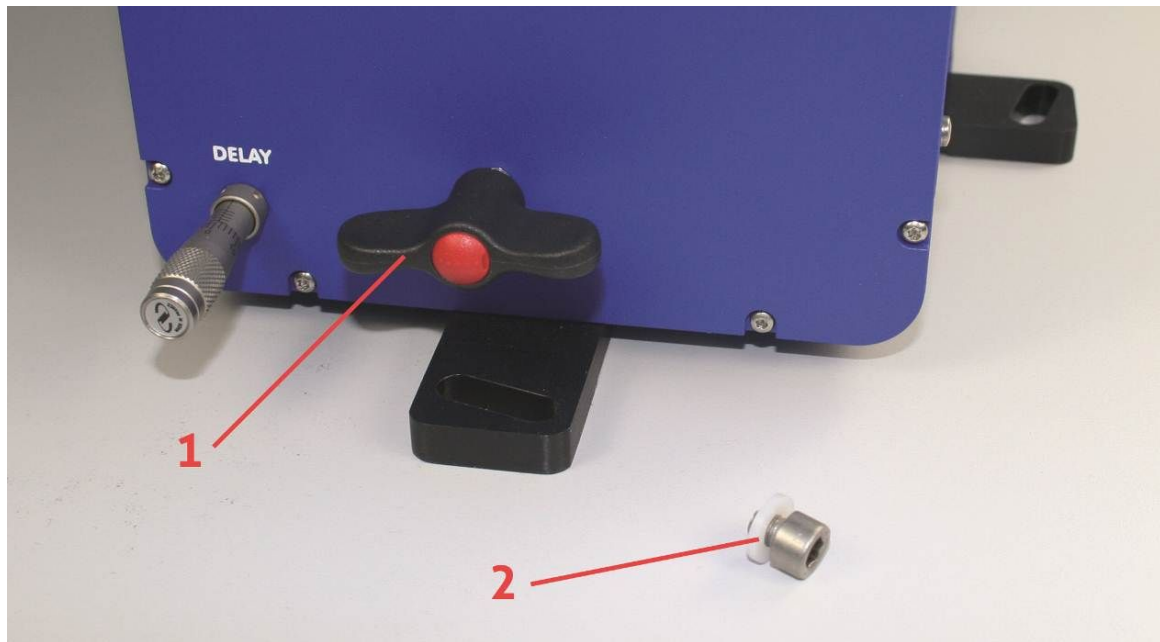

Figure 3.5.: Transportation screw (1) installed (for transportation), not included with *pulseCheck* USB 150!
The optical head is secured by a transportation screw. After unpacking the *pulseCheck* parts please remove screw (1) and replace with cover pin (2) (see Figure 3.5 and 3.6).